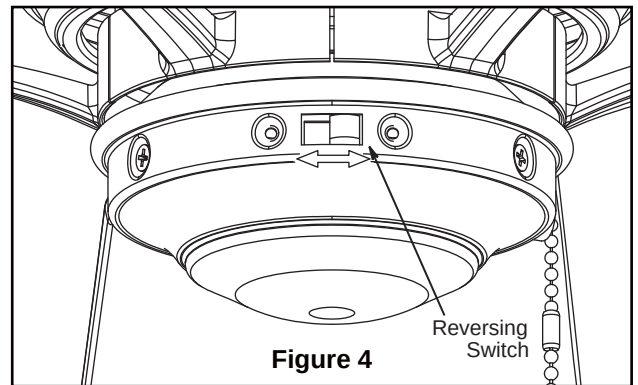

Figure 4
- ☐ 4. If airflow is desired in the opposite direction, turn the fan off and wait for the blades to stop turning. Then slide the reverse switch to the opposite position and turn fan on again. (Figure 4)